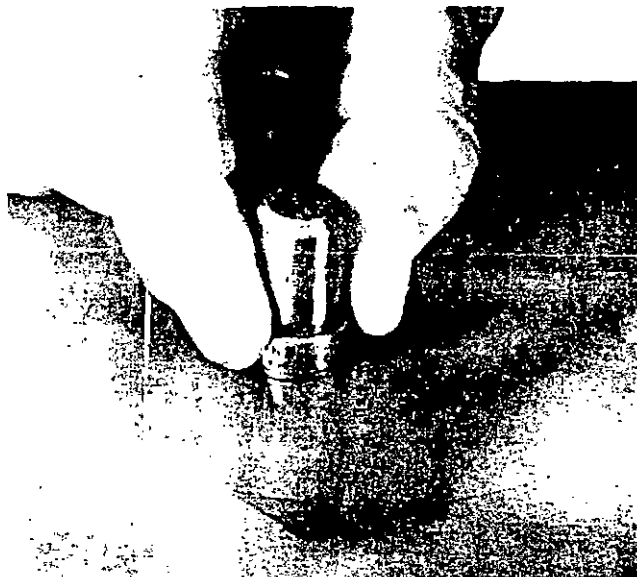

Figure 111
6. Clean the exterior of the nozzle holder, with the nozzle cap nut in place to protect the lapped surface. (Fig. 111.)